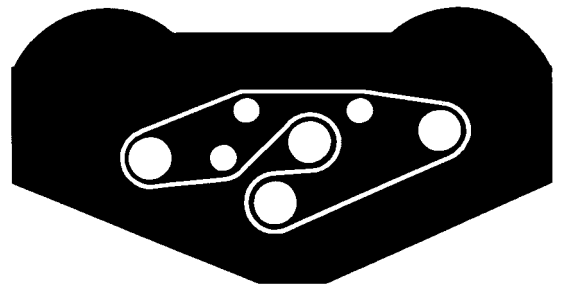

Figure 13
5. Route the new belt around the spindle pulleys and idler pulley assembly, as shown in Figure 13.